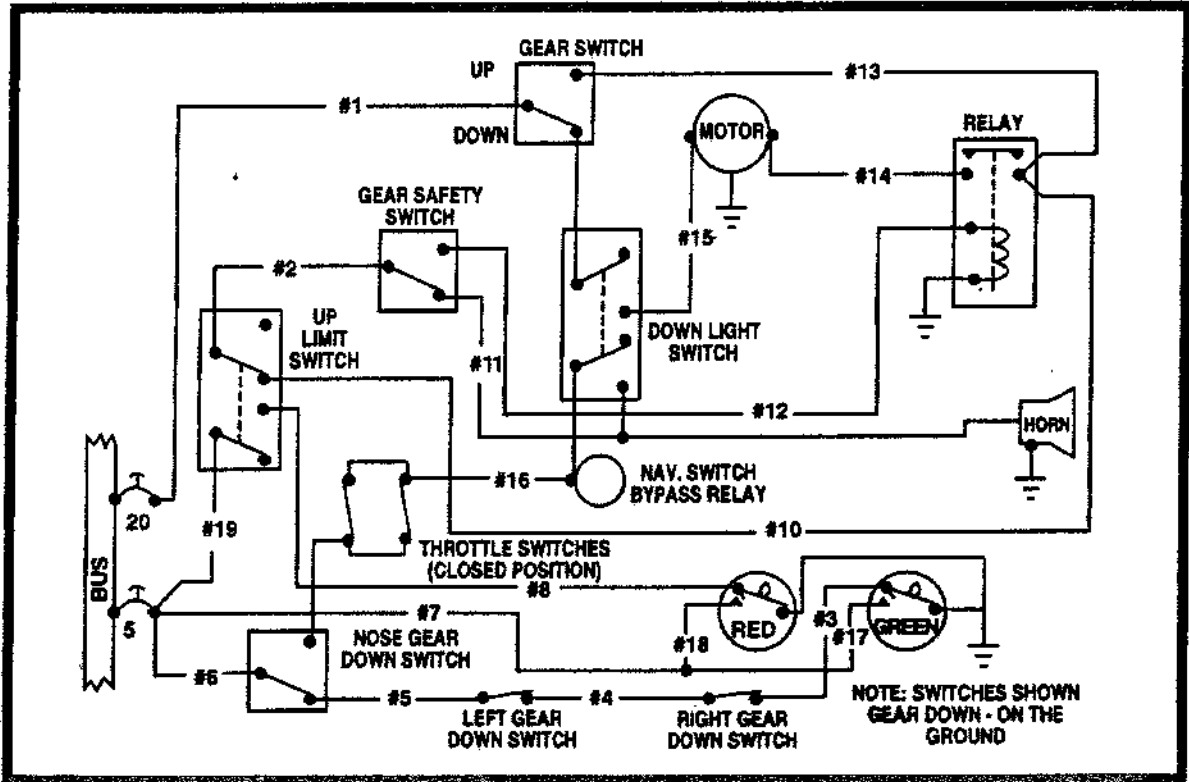

Fig. 9.18 Landing Gear Circuit.
- 90. (Refer to figure 9.18) With the landing gear retracted, the red indicator light will not come on if an open occurs in wire
- 91. (Refer to figure 9.18) The No. 7 wire is used to
- 92. (Refer to figure 9.18) When the landing gear is down, the green light will not come on if an open occurs in wire